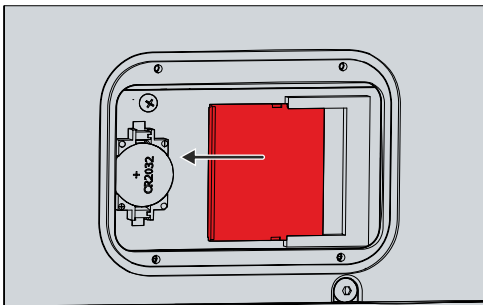

Fig. 14: Replacing the CFast
1. Carefully pull the CFast out of the guides (see Fig. 14).